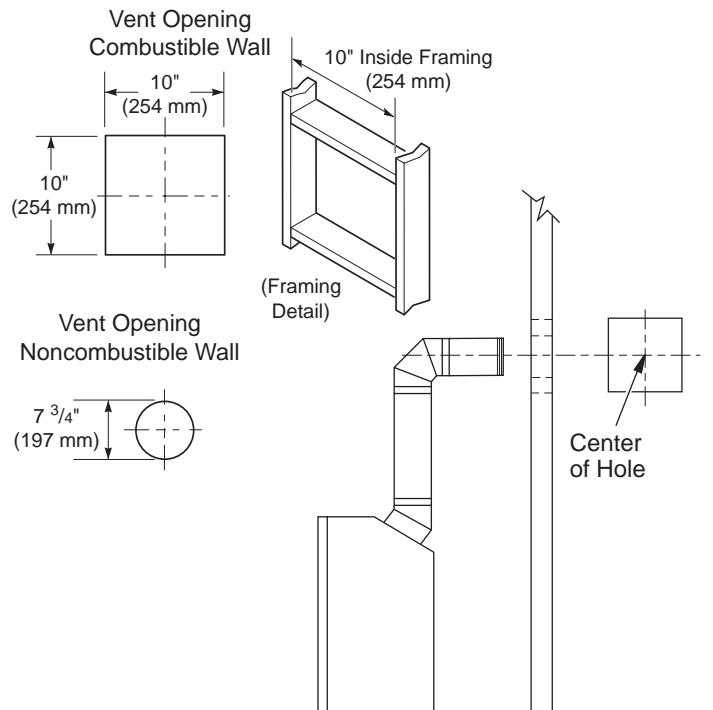

Figure 9 - Vent Opening Requirements
- Carefully determine the location where the vent pipe assembly will penetrate the outside wall. The center of the hole should line up with the center-line of the horizontal vent pipe. Mark the wall for a 10" x 10" square hole. Cut and frame the square hole in the exterior wall where the vent will be terminated. If the wall being penetrated is constructed of noncombustible material, such as masonry block or concrete, a 7 3/4" hole with zero clearance is acceptable (see Figure 9).
1. Cut a 10" square hole in the ceiling using the locating hole as a center point. The opening should be framed to 10"x10" (254 mm x 254 mm) inside dimensions, as shown in Figure 9 on page 8 using framing lumber the same size as the ceiling joists. If the area above the ceiling is an insulated ceiling or an attic space, nail firestop from the top side. This prevents loose insulation from falling into the required clearance space. If the area above the ceiling is a living space, install firestop below the framed hole. The firestop should be installed with no less than three nails per side (see Figure 20).
3. Cut a hole in the roof using the locating hole as a center point. (Cover any exposed open vent pipes before cutting hole in roof.) The 10" x 10" hole must be measured on the horizontal; actual length may be larger depending on the pitch of the roof. There must be a 1" clearance from the vent pipe to combustible materials. Frame the opening as shown in Figure 9, page 8.